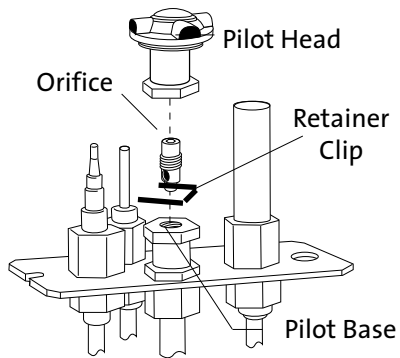

Figure 26. Pilot orifice removal and replacement.
12. **CHANGE THE PILOT ORIFICE:** From within the firebox, remove the Pilot Head by pulling it straight up from the pilot base. See fig. 26, page 18. Using the 4 mm hex key included with the kit, unscrew the pilot orifice (counter-clockwise). Replace with the appropriate orifice.